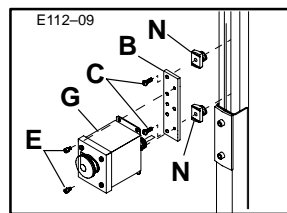

Figure 9: E-Stop Horizontal Mounting to Steel Stand Leg
- a. For a Steel Leg channel, select the desired location and position and install two (2) M6 Spring Nuts (N) into the Leg slot (Figure 9).
- Refer to Figure 9 and disassemble and re-attach Push-button Box assembly to the Mounting Plate and Mounting Brackets in the manner shown.
- Then, attach assembly to the M6 Spring Nuts, using the M6 x 16 mm Button Head Cap Screws (Figure 9). Tighten Screws with 4 mm Hex Key Wrench provided.